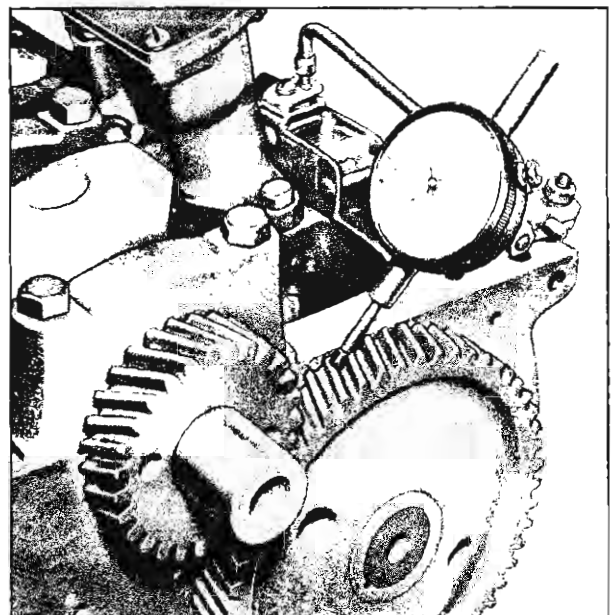

Fig. 40—Checking Timing Gear Backlash
5. Check the backlash between the timing gear teeth (fig. 40). The backlash should not be less than .004" nor more than .006".